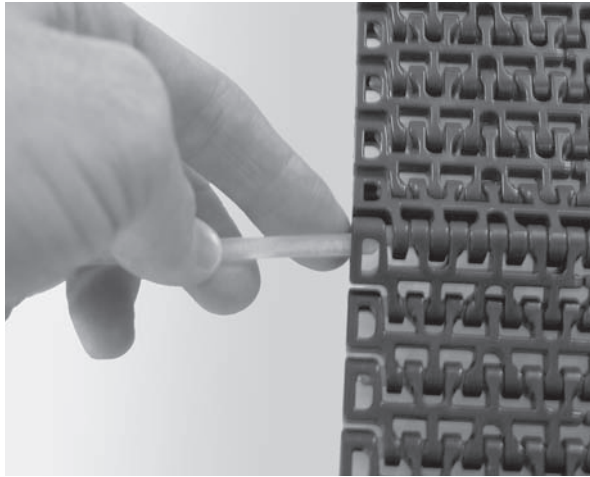

Figure 49
2. Use a second belt rod of the same size to push on the opposite end of the belt rod. (**Figure 49**).